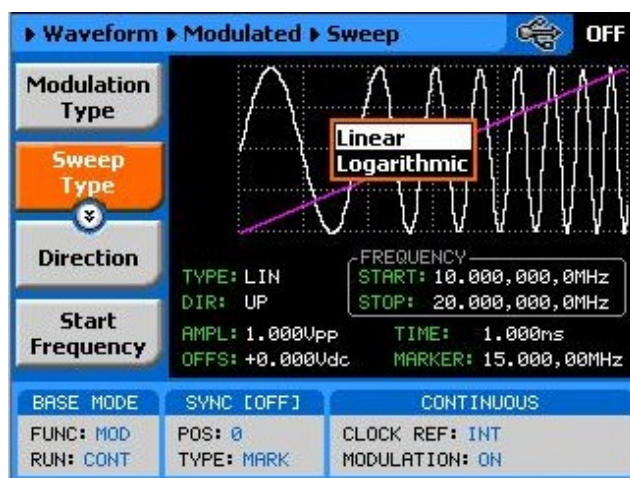

Figure 3-31, Selecting the Sweep Type
**Sweep Type** – defines the steps of which the frequency increments or decrements from start to stop frequencies. A choice is provided between linear and logarithmic steps. If you select linear sweep the carrier waveform frequency steps through the frequencies within a time interval which is set by the sweep time parameter. Likewise, using the logarithmic sweep type, the frequency span between the start and stop frequencies is stepped through using logarithmic steps. The menu that selects the sweep type is shown in Figure 3-31.